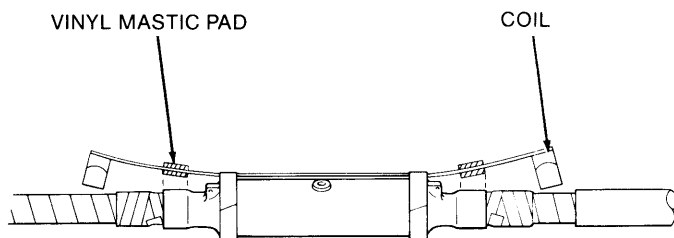
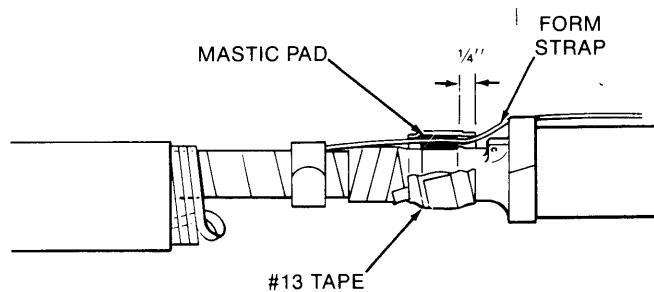

Figure 6
Figure 8
1. Position shield continuity assembly over splice body and hold it in place with a wrap or two of vinyl tape at each end of splice body (Figure 6). Form the shield continuity strap over the splice shoulder (Figure 8) on each side.
- b. After removing liner, place one pad **under** strap, mastic side toward strap and located at the end of the splice body (Figure 6). Place a second pad over the strap and first pad and press together, mastic to mastic, forming a sandwich. (This will be overwrapped with #13 Tape.)
- d. Beginning just beyond splice body, wrap #13 Tape over vinyl mastic pads extending onto splice for approximately 1/4" and returning to starting point. Do this on both ends (Figure 8).